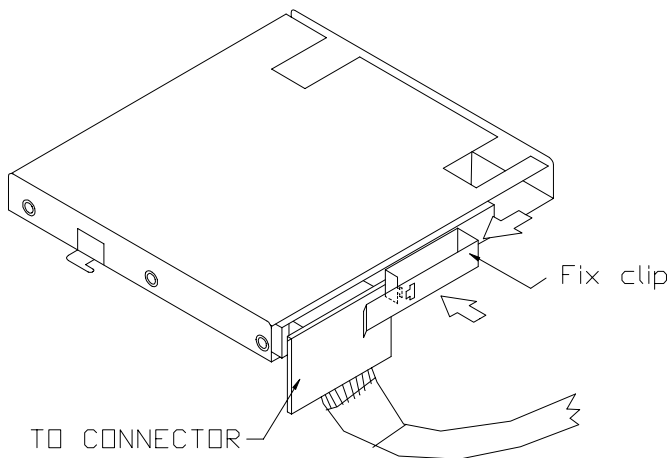

Figure 2-9: Attaching the connector to the CD-ROM
4. The securing ("fix") clip is located on back of the CDR-9150-24X. Move the short arm of the clip so that the lug at its end engages into the hole in the long arm of the clip. Then press the connector tightly onto the CD-ROM. (See Fig. 2-9.)